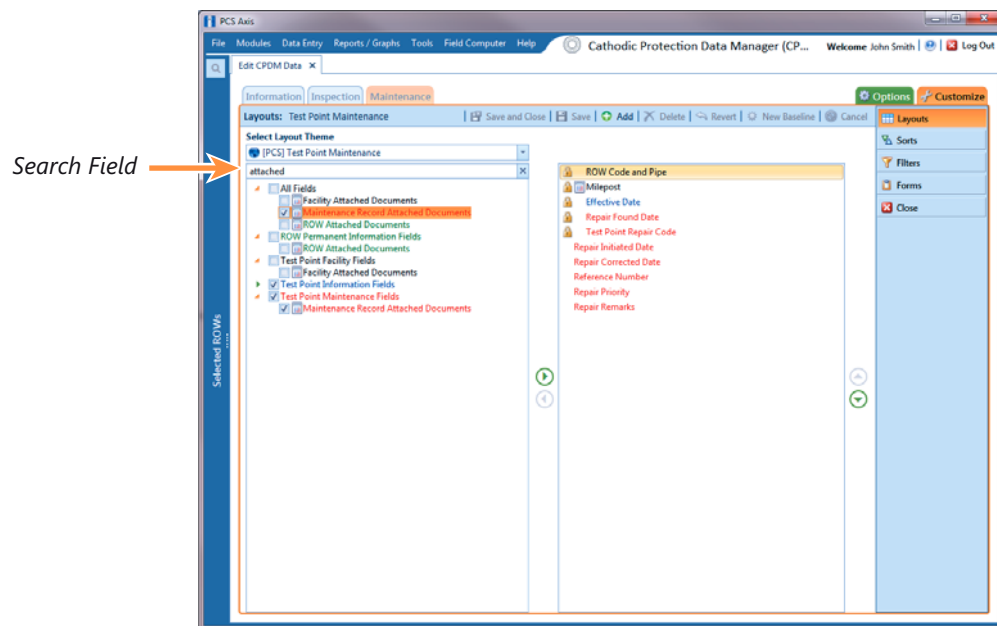

Figure 7-101. Layouts
- a Click the check box for the field **Maintenance Record Attached Document** in the left pane of the window (Figure 7-101, page 322).